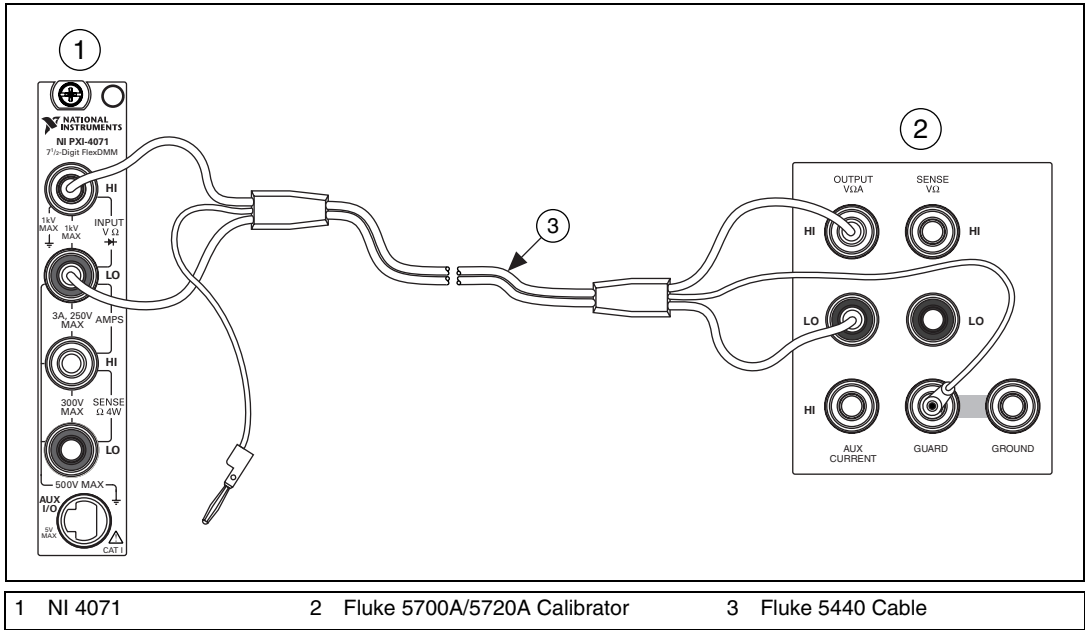

Figure 1. Cable Connections for Voltage and 2-Wire Resistance
20. Connect the NI 4071 and the Fluke 5700A/5720A calibrator using the Fluke 5440 cable, as shown in Figure 1. Table 1 lists the cable connections.